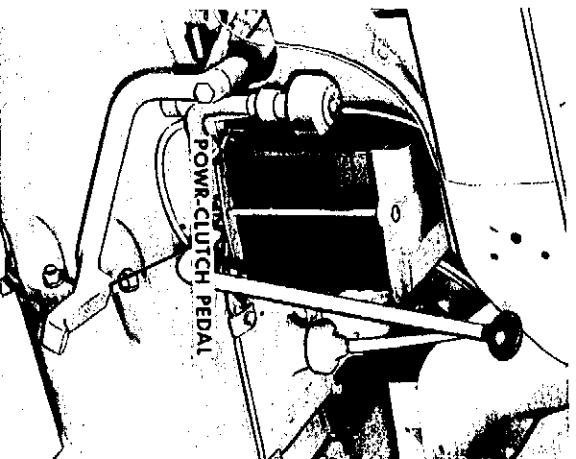

Figure 35
1. By releasing the Power-Clutch pedal, Figure 35. The main drive converter clutch automatically engages the Torque Converter drive each time the operator releases the Power-Clutch pedal to start the tractor moving - thus, the tractor always starts from a standing stop in Torque Converter Drive. When operating in direct drive, the Torque Converter can also be engaged by quickly depressing the Power-Clutch pedal and allowing it to release.